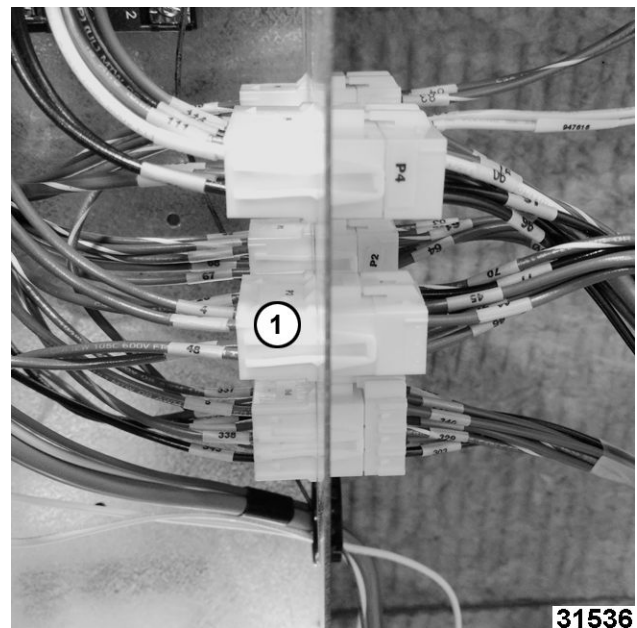

Fig. 56
2. Disconnect plug P3 (1, Fig. 56), located on right side.